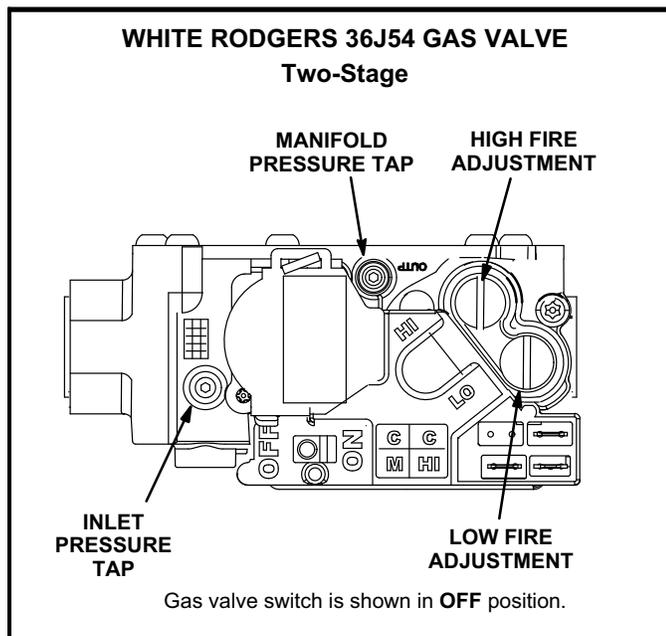

FIGURE 17
Gas Valve Operation (figure 17)
- 5- Move gas valve switch(es) to **OFF**. See figure 17.
- 6- Wait five (5) minutes to clear out any gas. If you then smell gas, **STOP!** Immediately call your gas supplier.
- 7- Move gas valve switch(es) to **ON**. See figure 17.